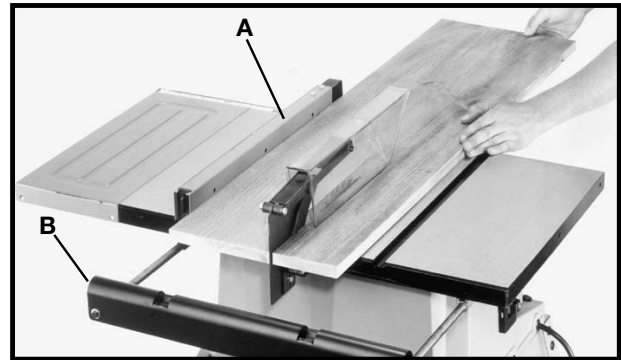

Fig. 47
Ripping is cutting lengthwise through a board. The rip fence (A) Fig. 47 is used to position and guide the work. One edge of the work rides against the rip fence while the flat side of the board rests on the table. Since the work is pushed along the fence, it must have a straight edge and make solid contact with the table. The saw blade guard must be used. The guard has anti-kickback fingers to prevent kickback and a splitter to prevent the wood kerf from closing and binding the blade.
1. Start the motor and advance the work holding it down and against the fence. **Never** stand in the line of the saw cut when ripping. Hold the work with both hands and push it along the fence and into the saw blade (Fig. 48). The work can then be fed through the saw blade with one or two hands. After the work is beyond the saw blade and anti-kickback fingers, the hand is removed from the work. When this is done the work will either stay on the table, tilt up slightly and be caught by the end of the rear guard, or slide off the table to the floor. Alternately, the feed can continue to the end of the table, after which the work is lifted and brought along the outside edge of the fence. The cut-off stock remains on the table and is not touched until the saw blade has stopped, unless it is a large piece allowing safe removal. When ripping boards longer than three feet, it is recommended that outfeed support (B) Fig. 47, should be extended as far out as possible to keep workpiece from falling off the saw table.